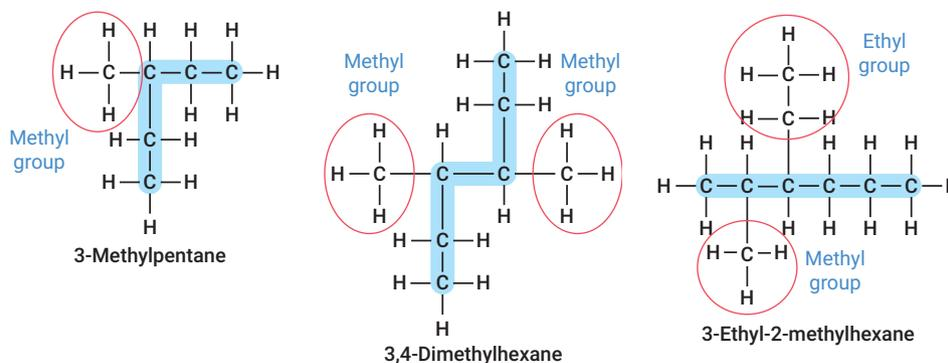

FIGURE 12.3.4 Branched chain alkanes
4. If the molecule has a branched carbon chain, then the sections that are not part of the longest chain are known as **alkyl chains** and are named according to **Table 12.3.1**. The alkyl chains are named and numbered according to their position on the longest chain in the same way as a functional group, as seen in **Figure 12.3.4**. Any alkyl groups are named alphabetically, i.e. ethyl comes before methyl irrespective of the numbering.